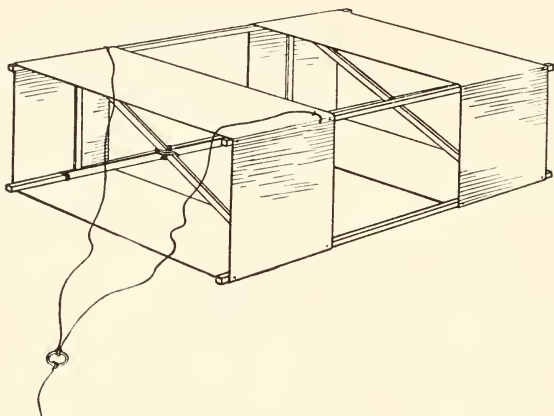

FIG. 24. — The Box-Kite.
uprights B, which is the proper position for them. Bind the braces together at their centers with thread, as shown in Figs. 24 and 26. Coat the lashings with glue after winding them, and the thread will hold its position better.
**Attaching the Bridle**, but that shown in Fig. 24 is generally considered the most satisfactory. Of course, the kite is flown other side up, with the bridle underneath. The three-point attachment has cords fastened at the two outer corners of one cell, and a third cord to the center of the outer edge of the other cell; and the four-point attachment has cords attached at the four outer corners